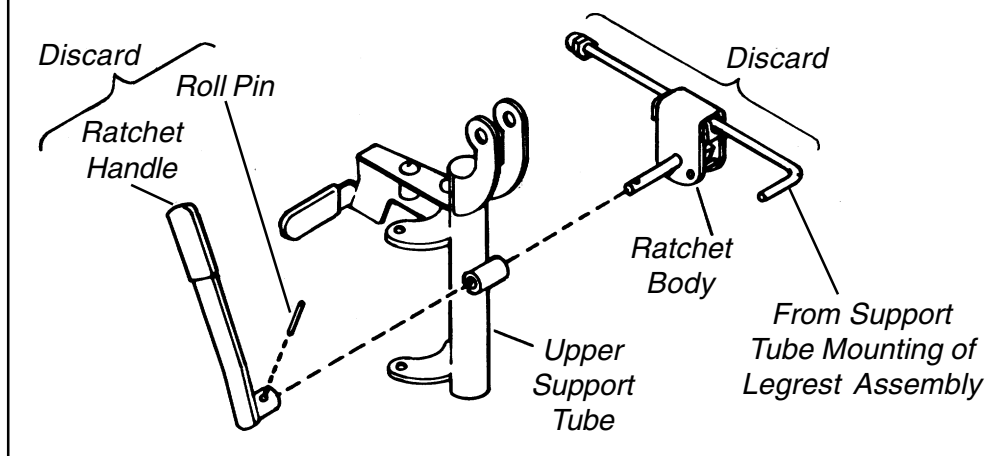

FIGURE 1 - REMOVING EXISTING RATCHET ASSEMBLY
REMOVING EXISTING RATCHET ASSEMBLY (FIGURE 1)
- Use a hammer and a punch to remove the roll pin that secures the ratchet handle to the ratchet assembly as shown in FIGURE 1, DETAIL "A".
- Remove ratchet body and ratchet handle from upper support tube as shown in FIGURE 1, DETAIL "A".